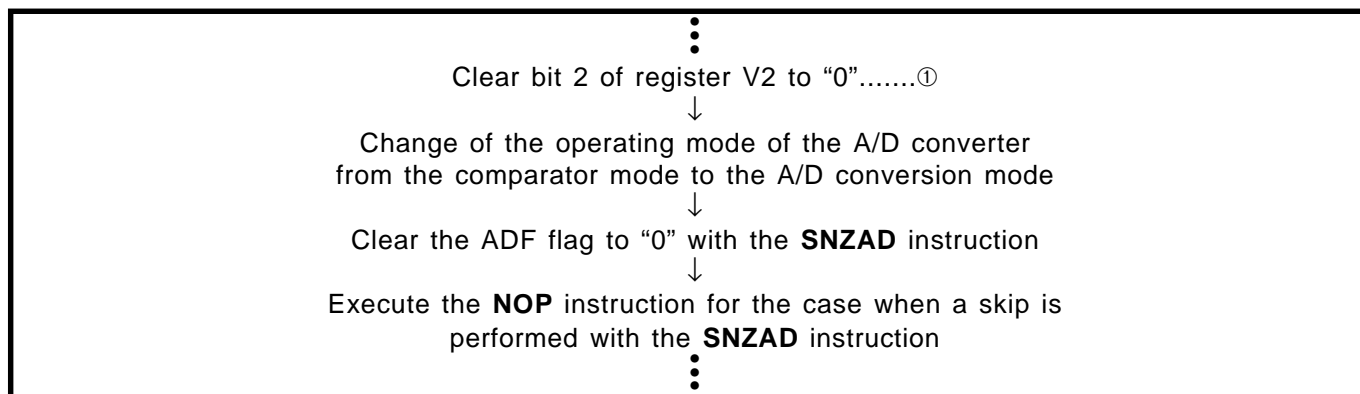

Fig. 3.3.3 A/D converter operating mode program example
- Clear bit 2 of register V2 to "0" to change the operating mode of the A/D converter from the comparator mode to the A/D conversion mode (refer to Figure 3.3.3①).